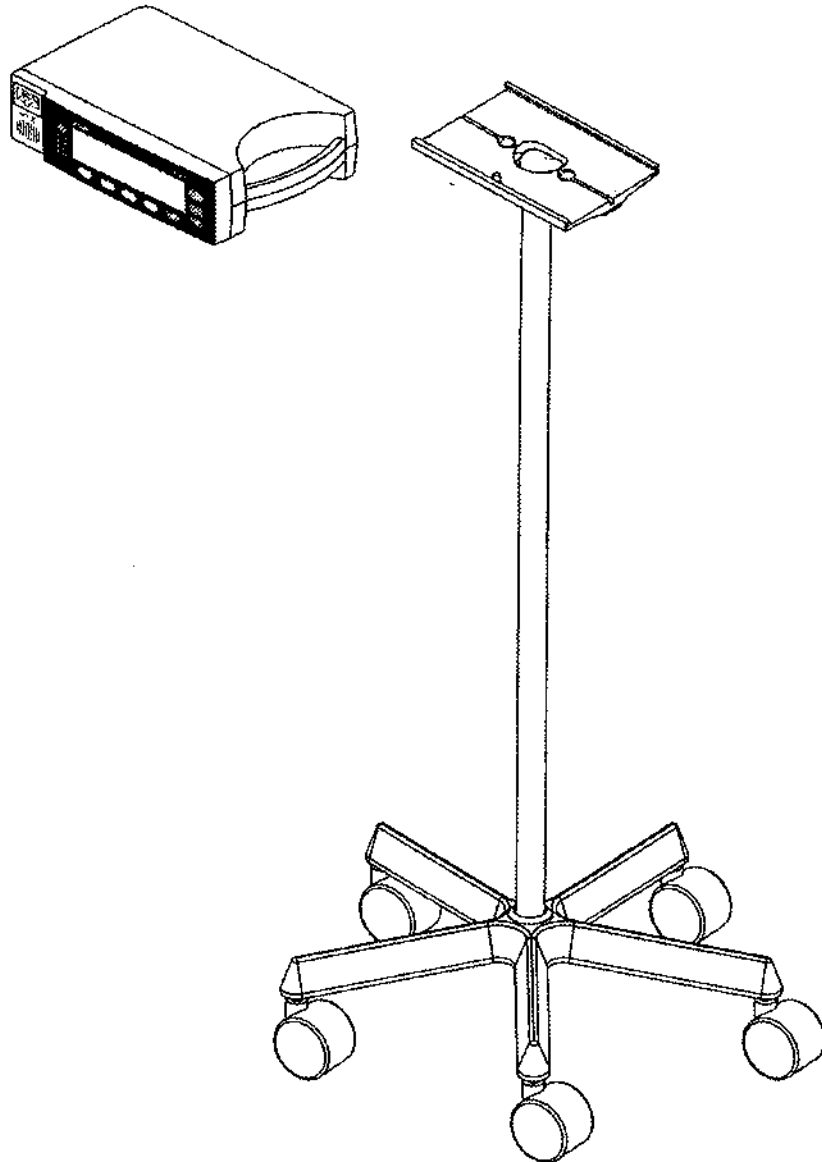

Figure 6: GCX Roll Stand Poly-mount
- GCX Roll Stand Poly-mount. See Figure 6, page 16.
The GCX roll stand poly-mount attaches to the N-395 monitor GCX mounting plate as shown in Figure 6. For further instructions regarding connecting the GCX roll stand poly-mount, refer to the illustrated directions for use included with GCX roll stand poly-mount.